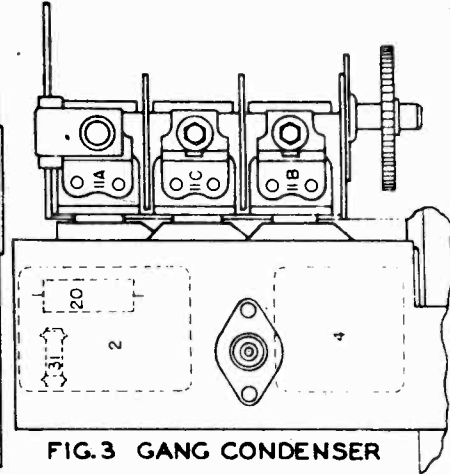

FIG. 3 GANG CONDENSER
- d. Adjust the parallel trimmer for the oscillator section of the condenser gang (Illustration 11C, Figure 3) for maximum output. (It is very important that this frequency be set accurately as a slight mis-setting will cause the receiver to be out of track over the entire high frequency end of the dial.)